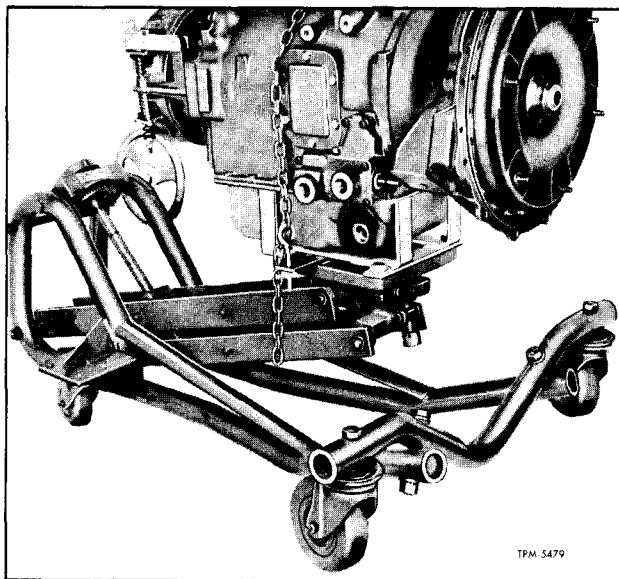

Figure 5—Transmission Mounted on Adjustable Dolly
11. Support the transmission with a 1,000-lb. (minimum) transmission floor jack or dolly (see fig. 5). The jack or dolly must be positioned so the transmission oil pan will not support the weight of the transmission. Fasten a safety chain over top of transmission and to both sides of the jack.
1. Raise vehicle sufficiently to allow installation of transmission. With transmission assembly properly mounted on transmission jack or dolly as shown in figure 5, move transmission into position aligning converter housing with flywheel housing. Check for and clean away any foreign material in flywheel pilot hole and on flywheel flex plate assembly and converter housing face. Rotate flywheel as necessary so that the six studs on the converter cover can freely enter holes in engine flywheel flex plate assembly. Carefully move the transmission assembly toward engine so studs can enter holes in flex plate and so that pilot on transmission enters pilot hole in center of flywheel.